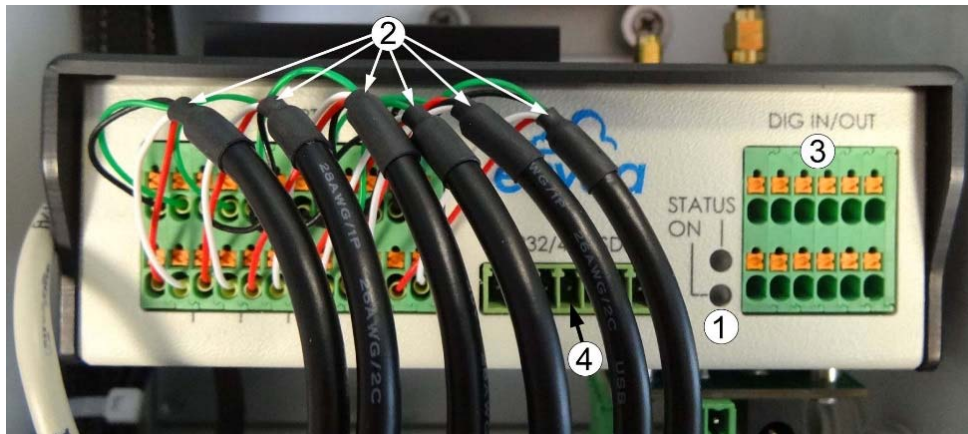

Figure 3 – Front panel of MODBUS RS485 Module for CAIRSENS
- 6 micro-USB cables for connection to the CAIRSENS (2) range sensors. The color code of cables is as follows (see Figure 3 to view the (black/red/green/white) connection order :